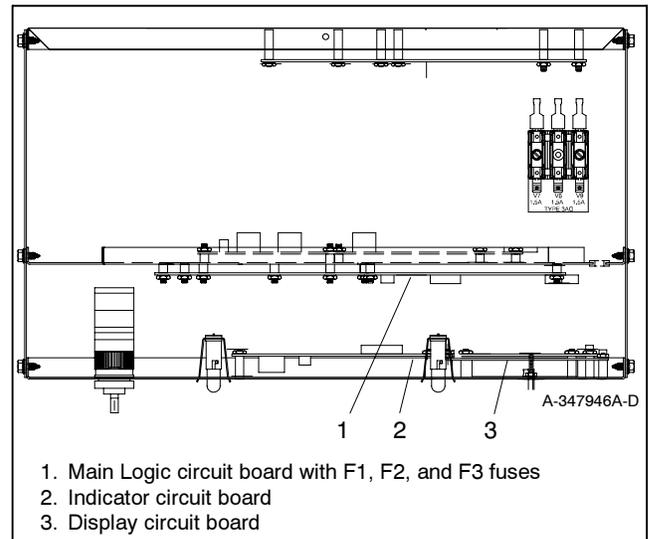

Figure 4 Controller Circuit Boards, Top View
- 5.1 Locate the main logic circuit board in the 340 controller. See Figure 4.